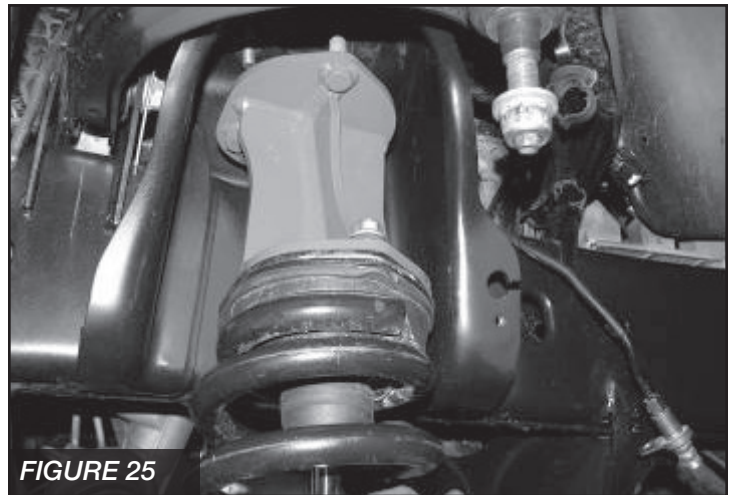

FIGURE 25
34. Install the complete shock assembly into the truck attaching the three upper bolts first using the supplied 3/8" C-lock and flat washers, leave loose. Torque upper hardware to 52 ft. lbs. **SEE FIGURE 25**